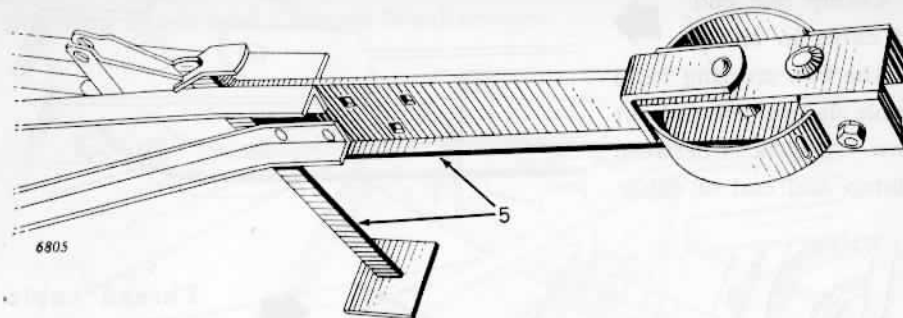

Figure 14—Hitch Assembly and Front End Stand Installed
5. Install hitch assembly (Bundle AC3103Y), and front end stand (in box) as shown in Figure 14.